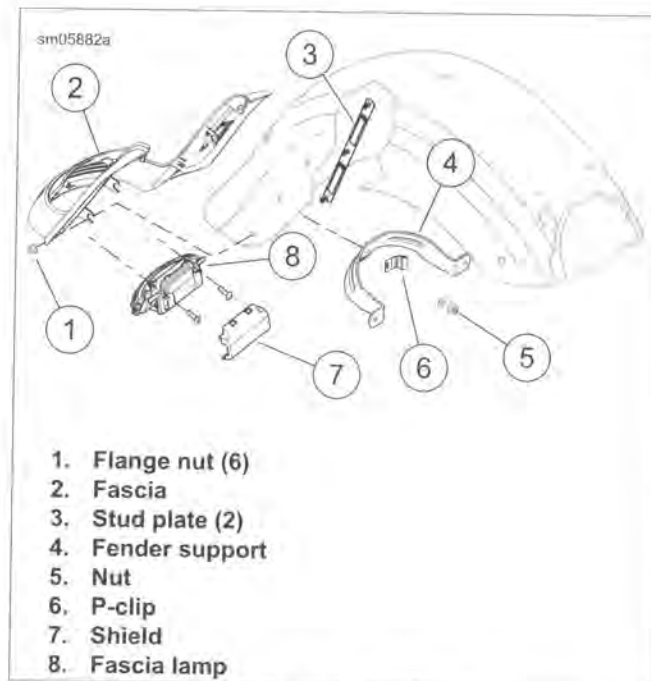

Figure 7-23. Rear Fascia
1. See Figure 7-23. Remove shield (7) and disconnect rear lights harness and tail light jumper harness from fascia lamp.
2. Remove screws securing lamp (8).
1. See Figure 7-23. Secure lamp (8) with two screws. Tighten to 18-22 in-lbs (2.0-2.5 Nm).
3. Install shield (7).